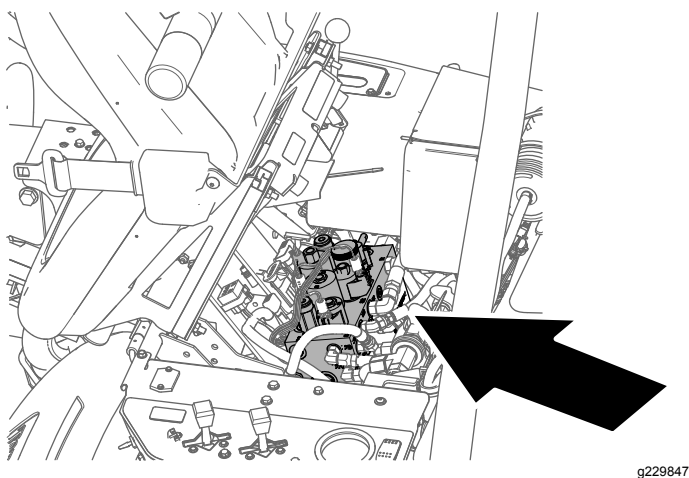

Figure 56
2. Tilt the operator's seat forward and support it with the prop rod (Figure 56).